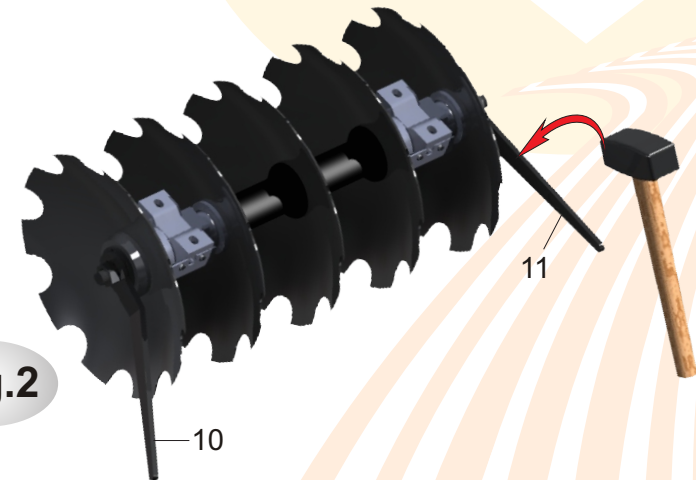

Fig.2
Once this is done, with the wrench (10) and its handle standing on the ground, tighten with the wrench (11) from the external side of the disc (use a 10 kg mallet approximately and about 70 cm of wire) until reaching maximum torque, seeking to coincide the holes of the nut with the holes of the external abutment. This nut should be locked. Use the screw (8) to lock it. Figures 2 and 3.